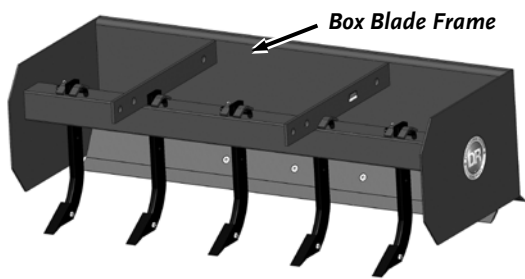

Figure 5
2. Position the Box Blade Frame on the working surface (**Figure 5**).